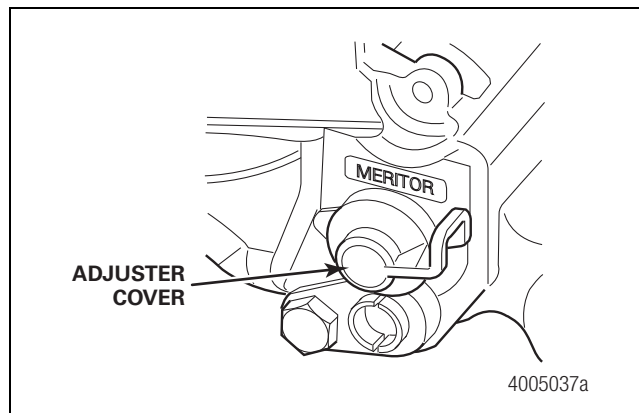

Figure 4.25
1. Remove the adjuster cover. Figure 4.25.